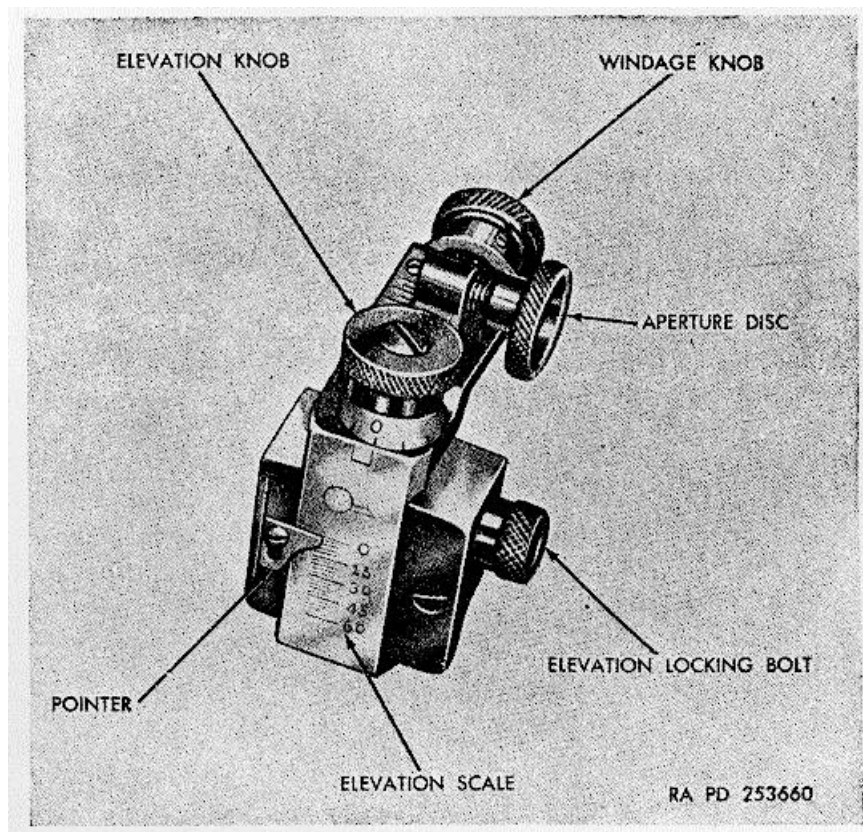

Figure 32. Lyman rear right No. 48WH (Winchester rifle model 70).
- (3) *Intermediate.* The safety lock is in INTERMEDIATE position when at right angles to the bolt. This position locks the firing pin but not the bolt. This allows cartridges to remain in the chamber or to be extracted from the chamber or magazine with safety.
- (4) *Fire.* Rifle is ready to be fired when safety lock is full forward.
16. Lyman Rear Sight No. 48WH (fig. 32)